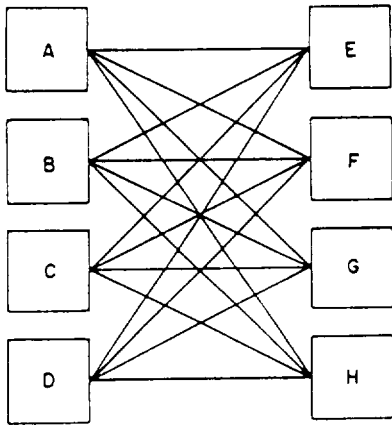
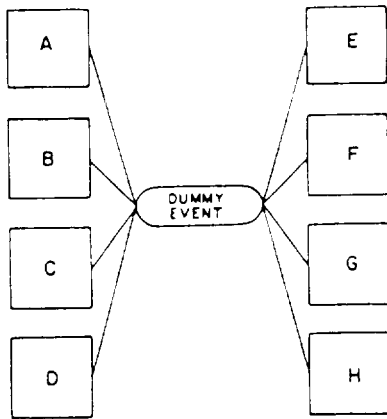

Figure 9-15.—Multiple predecessors and successors (direct linking).
Figure 9-16.—Multiple predecessors and successors (using dummy collector).
**DIRECT LINKING USING AN EVENT.**— When the number of common preceding and succeeding activities in a particular complex is large, as in figure 9-15, a dummy event or focal activity of zero duration may be introduced to simplify the network. The use of such a dummy event is shown in figure 9-16, which is a simplification of figure 9-15. Although the effect in terms of scheduling is the same, the introduction of the dummy improves the clarity of the diagram.